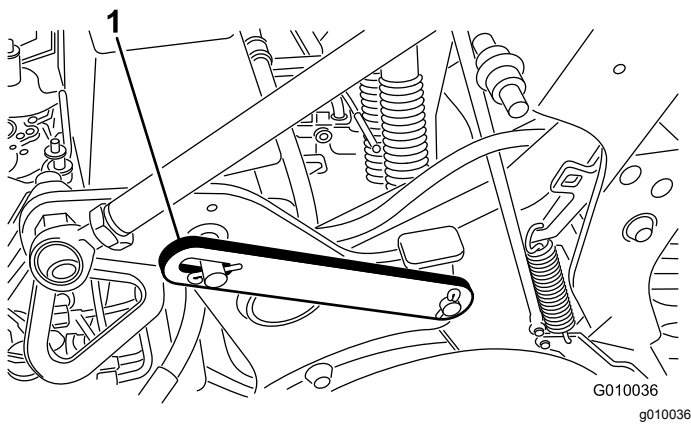

Figure 20
3. Remove the clip ring securing the service latch in the stowed position (Figure 20).